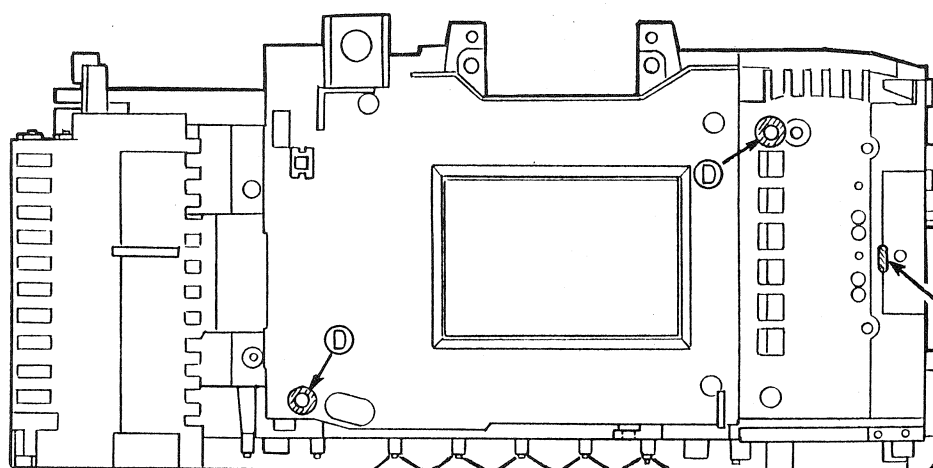

Fig.56
- When the new type Mirror Box Ass'y is to be installed in the new type Body, remove the washers at the points ㊹. (See Fig.56)